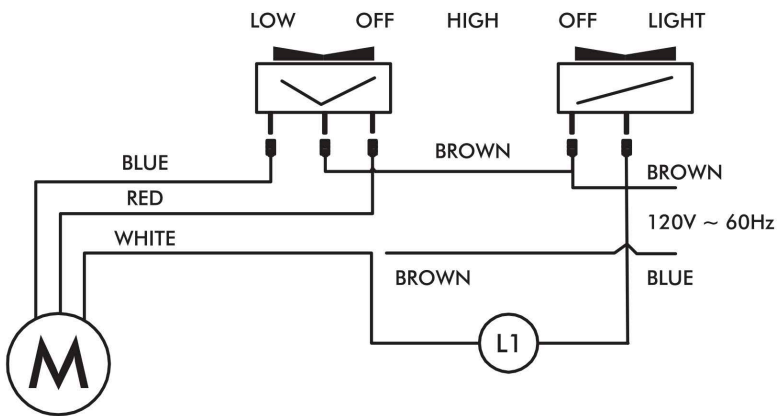

Fig.2
3. If discharge is vertical through a rectangular duct, remove the knockout sections D, B and E only (see Fig.2)
4. If the vertical discharge is through a 7" round duct, remove knockout sections A, B and C only. Section D and E remain with the hood (see Fig.2 on the right)